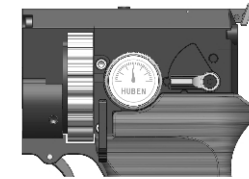

FIG.2
- ❖ Push the safety lever to the "SAFE" position. The safety is ON, the trigger is blocked and the air pistol cannot be fired. (See FIG.2)